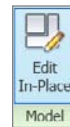

Figure 7.40
4. Choose Set from the Work Plane panel, and select Level 3 from the Name drop-down; this will set the work plane at the base of the loft. Sketch two circles with a radius of approximately 12', as shown in Figure 7.40. You will create void forms using each circle.